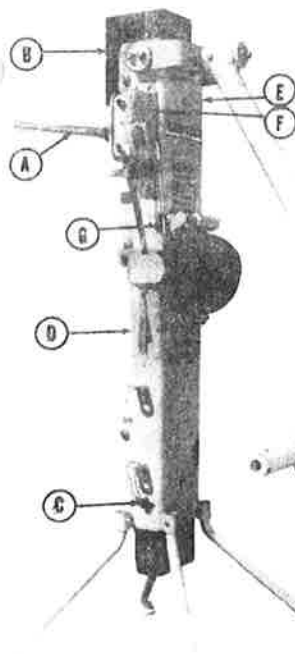
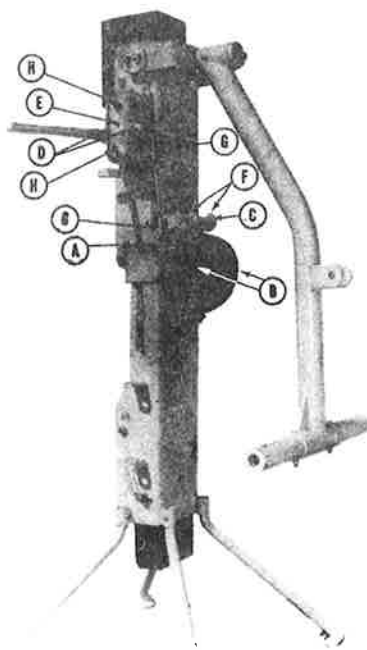

Figure 1
Figure 2
Lubricate bearings at each end of friction wheel shaft (B), Figure 2. Lubricate friction wheel cradle cam (C), Figure 2.
Lubricate the following grease fittings: Both bearings on control handle shaft (D), Figure 2; brake release plate (E), Figure 2; cradle camshaft bearings (F), Figure 2. Apply 1 or 2 drops of SAE 30 or 40 oil to ball joints (G), Figure 2, on drive control rod and to studs (H), Figure 2, passing through control housing to brake release plate.
Under ordinary conditions, there are only three parts, the two brake blocks (E) & (F), Figure 1, and the friction wheel (A), Figure 2, which will show any appreciable wear and require adjustment.
When brakes are applied, the brake blocks should hold drive channel (B), Figure 1, in the center or slightly to left of center of guide channel (D), Figure 1 (as viewed by operator). This is controlled by adding or removing shims from under stationary brake block (E), Figure 1. The Driver is shipped with one thick and two thin shims at both top and bottom of stationary brake block. These shims may be used in any combination as long as the total thickness at top and bottom is equal. When adjustment of the stationary brake block has been changed, it may be necessary to change the adjustment of the brake release plate (E), Figure 2. Adjustment of this plate is controlled by the lock nuts at top and bottom. They should be adjusted so that the control handle (A), Figure 1, has 1 to 2 inches free movement at its outer end.
When the control handle (A), Figure 1, is in "Hold" position and edges of the drive channel (B), Figure 1, are out against guide bearings, there should be from 1/16 to 1/8 inch of space between friction wheel (A), Figure 2, and back of drive channel. A piece of No. 14 gage wire may be used as a feeler gage and should just slide between friction wheel and drive channel. This spacing can be obtained by removing or adding shims alternately above and below the friction wheel.
If for some reason the Driver is ever found to be completely out of adjustment, the following procedure can be used to put it in operating condition again. Remove transport pin (C), Figure 1, and drop drive channel (B), Figure 1, onto a wooden block placed on ground. Disconnect ball joint at lower end of control rod (G), Figure 1, from lever on cradle camshaft. Adjust brakes (E) & (F), Figure 1, and friction wheel (A), Figure 2, setting as outlined above. Before checking friction wheel spacing, be sure that cradle cam is released and friction wheel is out as far from drive channel as cradle cam will allow. Adjust length of control rod until lower ball joint stud slips freely into hole in cradle camshaft lever. Secure with nut and lockwasher and test operation of Driver. If it seems desirable to have more control handle movement between the point where the brakes release and the friction wheel engages, this may be obtained by lengthening control rod slightly from the setting obtained above. Or, if slightly less control handle movement is desired, this may be obtained by shortening control rod.
Support drive channel (B), Figure 1, with a suitable hoist and remove transport pin (C), Figure 1.
Position control handle (A), Figure 1, in the "LOWER" position and raise drive channel (B), Figure 1, from guide channel (D), Figure 1. Invert the drive channel and reinsert it in the guide channel.
Insert transport pin (C), Figure 1, through the holes in the guide channel and secure with klik-pin provided.